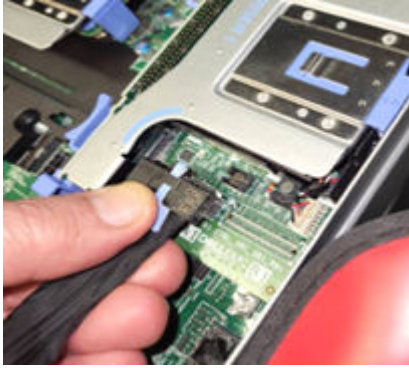

Figure 40: Disconnect SAS Cable from H750 connector
3. Refer to Figure 40: Disconnect SAS Cable from H750 connector on page 141 below. Disconnect the storage controller cable from the PERC H750 card connector.